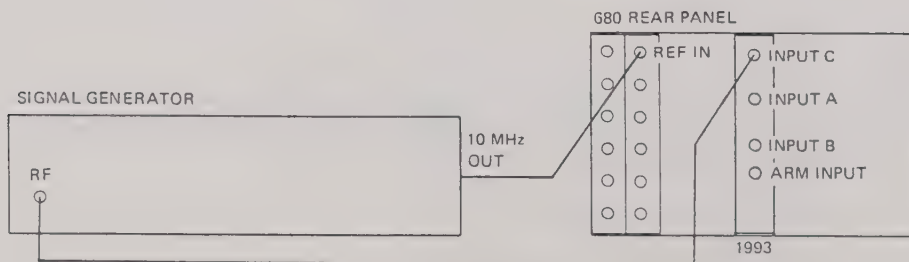

Fig. 6.11 Connections for Channel C Sensitivity PVP
- (1) Connect the test equipment as shown in Fig. 6.11.